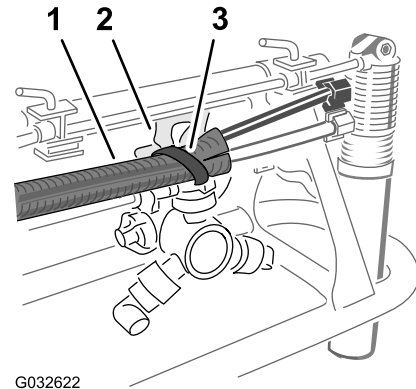

Figure 31
5. Secure the tube assembly to the hole in the nozzle support with a cable tie as shown in Figure 31.